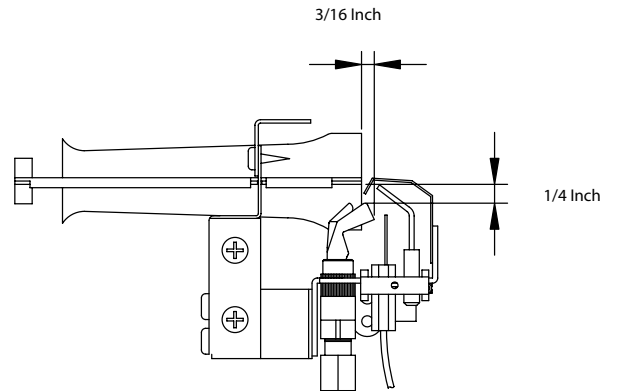

Figure 3
9. Install the first main burner adjacent to the pilot assembly (see "INSTALLING THE BURNERS"). Check the dimensional relationship between the pilot and the main burner (see Figure 3).